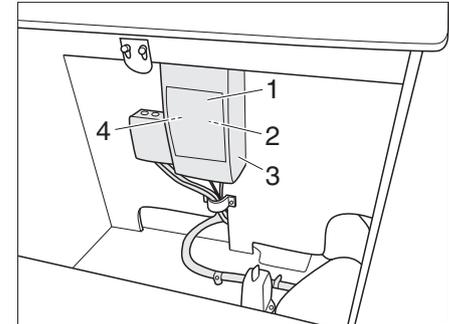

Fig. 78 230 V automatic circuit breaker
The 230 V automatic circuit breaker (Fig. 78,2) is located under an access flap near the seats on the left side of the vehicle.
► Open the cover flap (Fig. 78,1).
The 230 V connection is protected by a two-pole automatic circuit breaker (Fig. 78,2).
- The residual current circuit breaker (Fig. 78,4) for 230 V should be tripped once annually so that the mechanism does not "stick" and the tripping time is not extended.